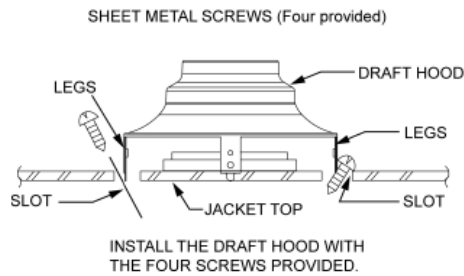

FIGURE 17.
- Place the draft hood legs in the receiving holes on the top of the water heater. The legs will snap in the holes to give a tight fit. Secure the legs to top with sheet metal screws. See Figure 17.